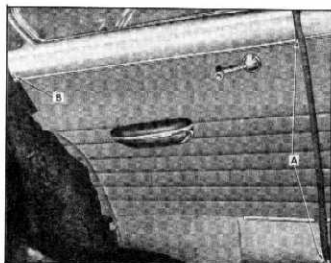

Fig. 26—Rear Quarter Trim Panel Attachment
5. Using a suitable flat tool, pry loose the front edge of the trim assembly "A" (fig. 26) where it is secured to the tacking strip by retainer nails.